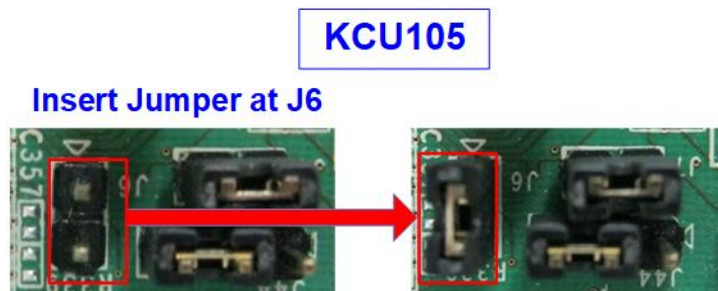

Figure 2-10 Insert jumper to enable SFP+ on KCU105
- c) The board setting on KCU105 board is shown in Figure 2-10. Insert jumper to J6 to enable Tx SFP+.